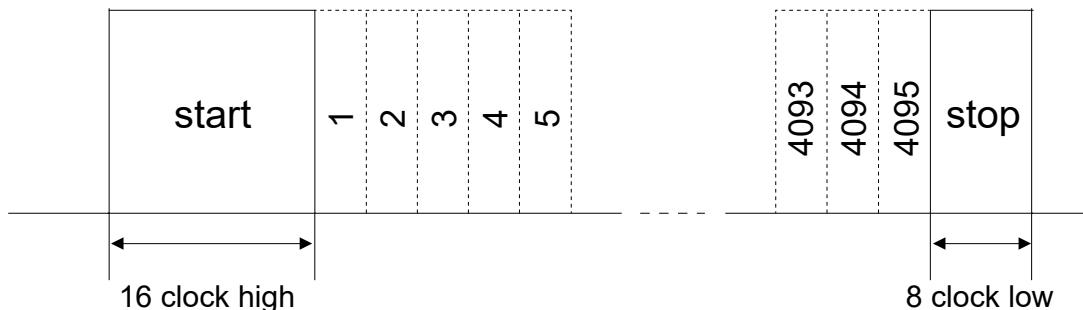

Figure 7. PWM output signal
TMR3108P supports pulse width modulation (PWM) output. The duty cycle of PWM is a logic signal proportional to the magnetic field angle. Figure 7 shows one period of the PWM signal, and the period (T) is $1/FPWM$. This period consists of 4119 minimum clock periods, starting from fixed 16 clock periods of high voltage and ending with 8 clock periods of low voltage. The total period (T) in between contains 4095 clock periods with a resolution of 12-bits. The minimum clock period is user programmable.